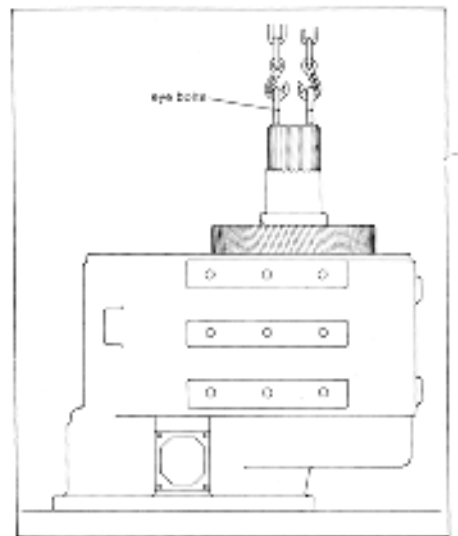

Fig. 34. Removing Output Gear and Shaft.
8. Install lifting eyes and hoist output shaft and gear from housing (see fig.34).